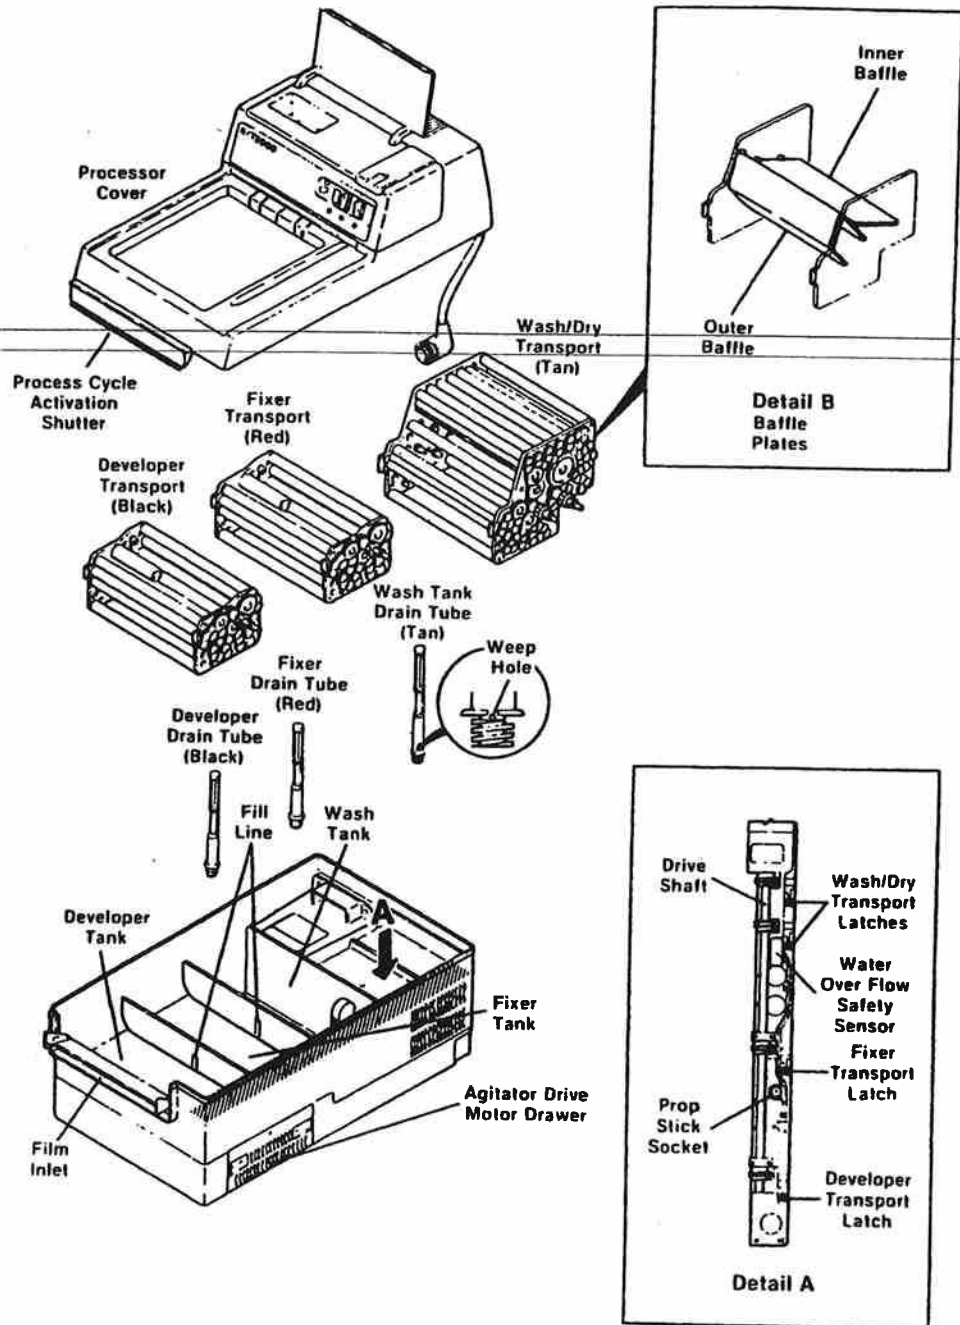

FIGURE 1
3. Fill Fixer (middle) Tank with 3 quarts of Fixer. Note the fill line on the tank. (See Figure 1.) Use care not to splash or splatter Fixer solution. Fixer will contaminate your Developer and cause poor film quality. Be sure to wipe up any spills immediately.
5. Install the tan Wash/Dry Transport in the Wash Tank and close the transport latches. Install the baffle plates as shown in Figure 1, Detail B, if not already in place.